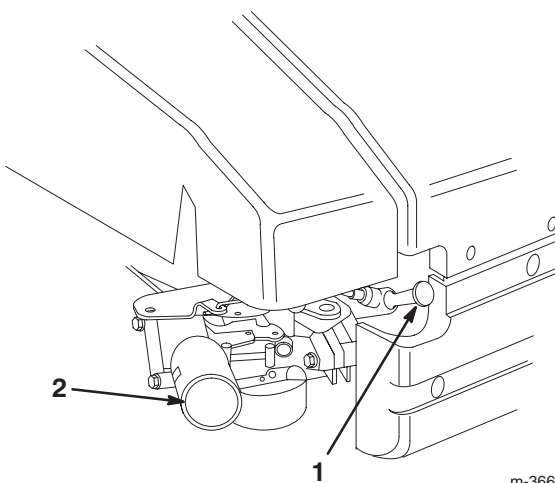

Figure 11
1. Connect the wire to the spark plug (Fig. 11).
2. Push the primer three times, waiting two seconds between each push (Fig. 11).